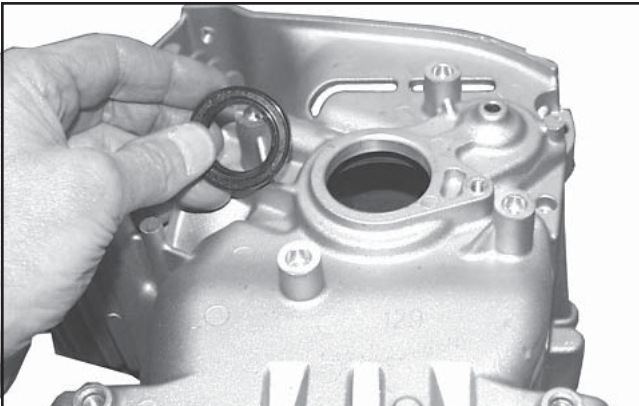

Figure 9-64. Removing Crankcase Seal.
1. Remove the oil seal from the crankcase. See Figure 9-64.